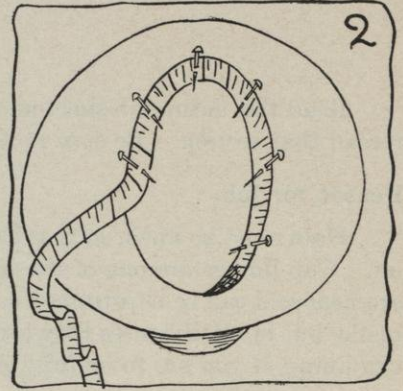

FIG. 2.
- (1) Pin tape measure in the headsize of the hat in order to find out how long to cut the bias (see Figure 2). Add $\frac{3}{4}$ inch to that measurement, and jot down the second measurement. The second measurement is the length of the bias strip that is needed.
- a.* Decide on length of bias strip, reading and following Section 2 *a* (1) of Job 68. (See Figure 2 of the same job, page 294.)